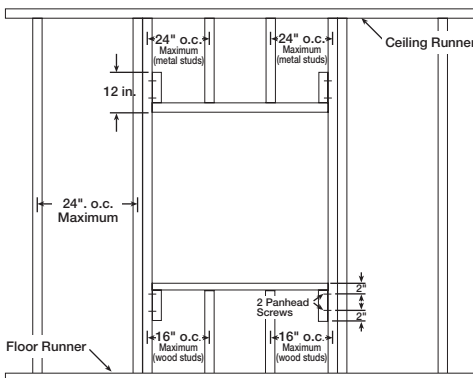

Figure 3 — Opening in Stud Wall
2. For Wood/Metal Stud Walls prepare your opening. See Figure 3.